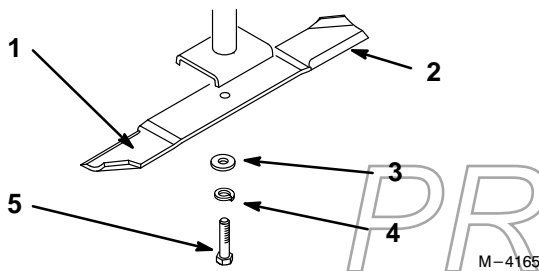
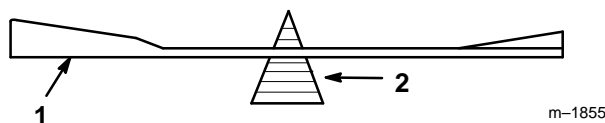

Figure 20
Figure 22
Hold the blade end using a rag or thickly-padded glove. Remove the blade bolt, lock washer, flat washer and blade from the spindle shaft (Fig. 20).
2. Check the balance of the blade by putting it on a blade balancer (Fig. 22). If the blade stays in a horizontal position, the blade is balanced and can be used. If the blade is not balanced, file some metal off the end of the sail area only (Fig. 20). Repeat this procedure until the blade is balanced.
1. Install the blade onto the spindle shaft (Fig. 20).
2. Install the flat washer, lock washer and blade bolt (Fig. 20). Torque the blade bolt to 85–110 ft-lb (115–150 N•m).